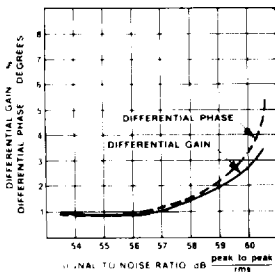

Fig. 3
- Video S/N is defined as the ratio the peak-to-peak output signal to RMS random (temporal) noise. The peak-to-peak signal is the maximum output level that satisfies the  $\Delta G$  and  $\Delta \phi$  specs. See Fig. 3.